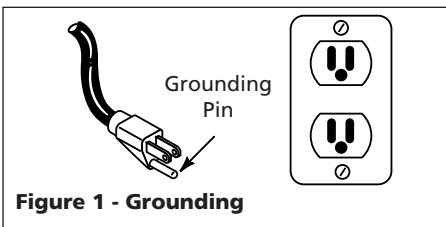

Figure 1 - Grounding
- This product requires a grounded 120V, 15 Amp circuit (See Figure 1).